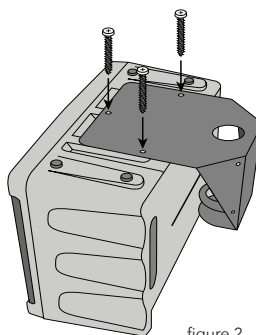

figure 2
7. Align the screw holes with the 3 holes on the bracket as shown in figure 2.